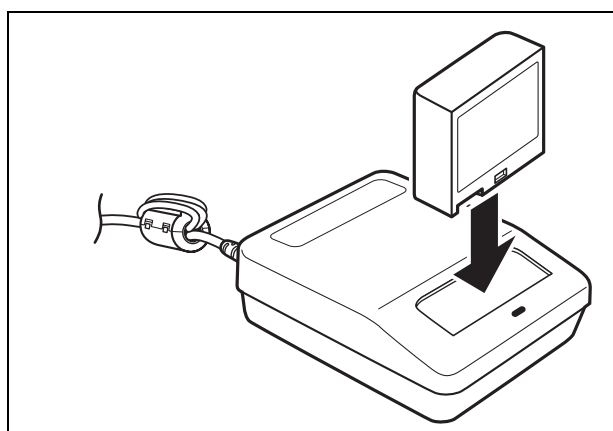

Figure 5.2
3. With the back of the battery pack facing towards you, attach the battery pack to the battery charger by pushing it down into the battery charger's battery slot cover (see Figure 5.2).